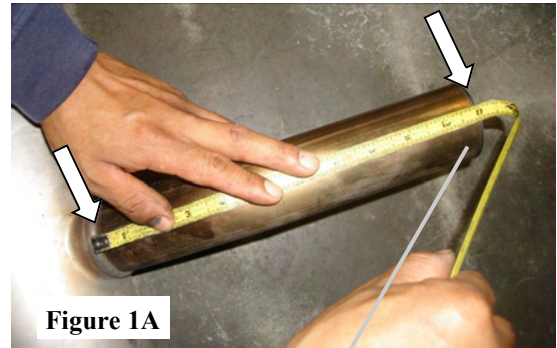

Figure 1A
2. Measure and mark a cut-line 11" on stock muffler pipe. Using a metal-cutting saw, carefully cut pipe making sure not to damage underside of vehicle. Clean cut pipe with file. (See Fig.1A, 1B)